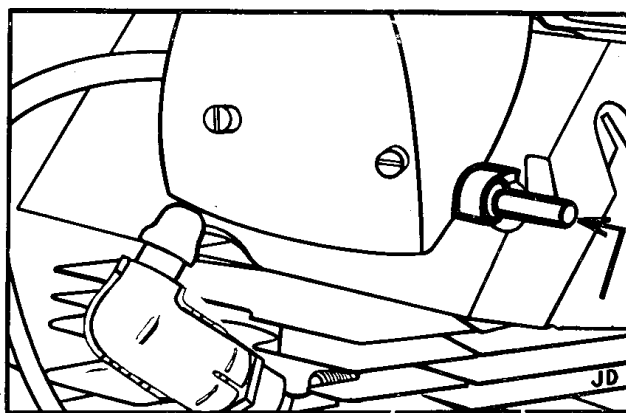

Fig. 5 — Air intake shut-off push button
- g) Intake air shut-off push button (Fig. 5).
Open the fuel cock (Fig. 4), and depress the air intake shut-off push button (Fig. 5] as far as it will go (after de-pressing it, the pin jumps out but the air intake remains shut). The engine can be started in two ways.